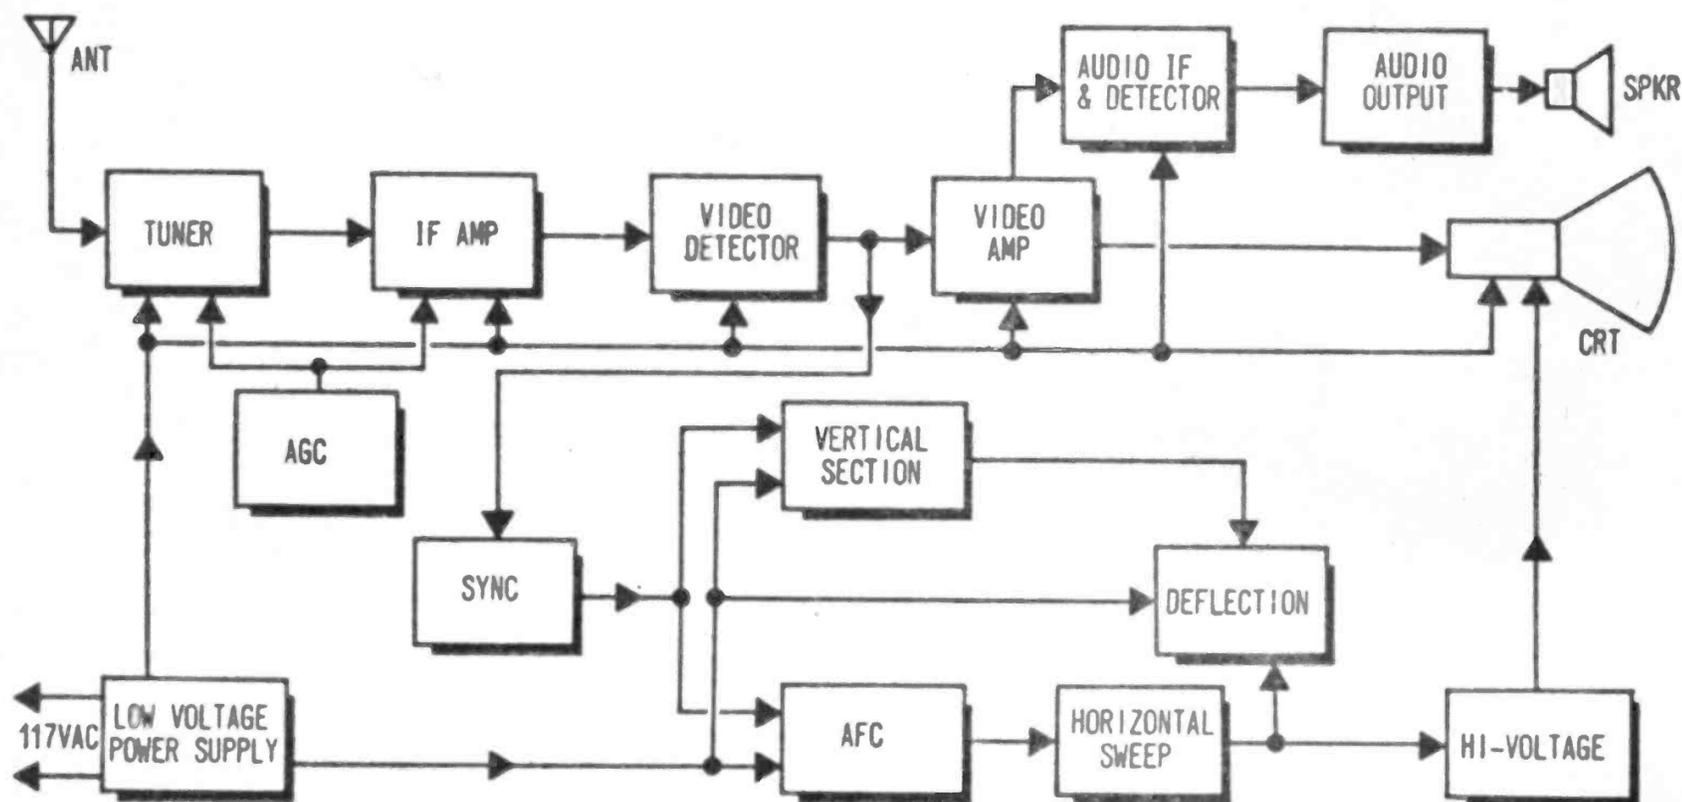

Fig. 1. Block diagram of standard TV set is useful when attempting to track down power supply troubles.
**No Nothing.** This symptom is the easiest trouble of all to correct. Let's take a look at the block diagram in Fig. 1. We see that practically every stage gets power from the low-voltage power supply. Let's begin right here.